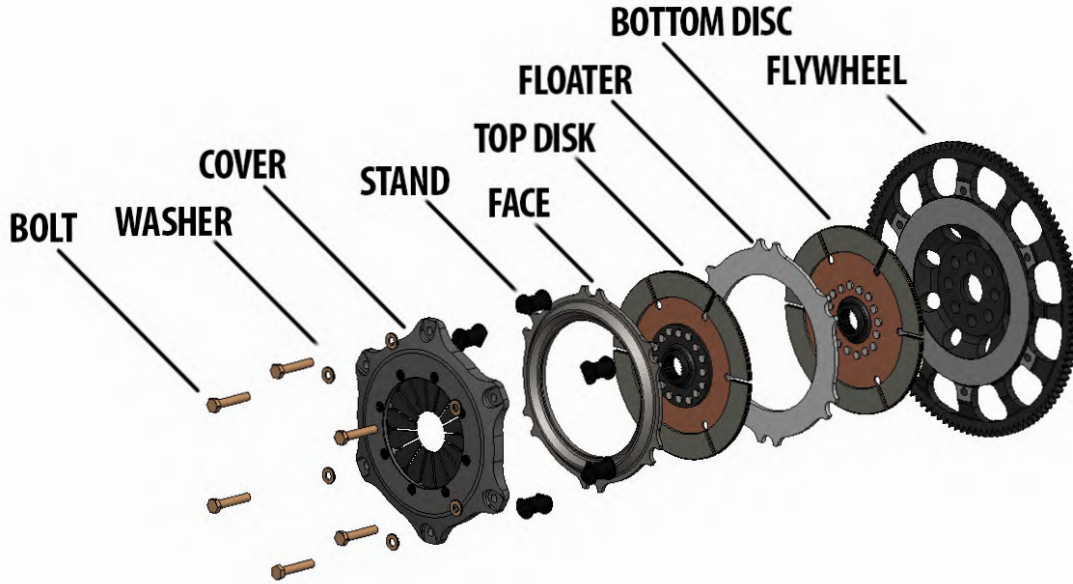

FIGURE 1
7. The ACT twin disc clutch kit bolts to the flywheel in a specific manner (refer to figure 1 on previous page). An alignment tool provided with your clutch kit is necessary to align the discs while installing your ACT twin disc clutch kit.
8. Install the bottom disc first with the "THIS SIDE UP" towards the cover. The floater will be next to install with the dimples on the ears going away from the flywheel, followed by the top disc with the "THIS SIDE UP" towards the cover as per figure 1. Use the provided alignment tool to center the discs.